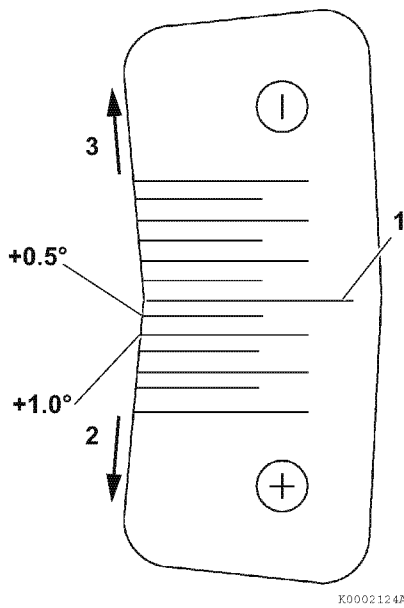

Figure 7-23
- If the difference between the timing index numbers is a positive number, the fuel injection pump mounting position must be advanced (2, **Figure 7-23**) (rotated away from the engine) as compared to the “standard mark” (1, **Figure 7-23**) by the calculated positive amount, adjust the fuel injection pump to the calculated value.
- If the difference between the timing index numbers is a negative number, the replacement injection pump must be retarded (3, **Figure 7-23**) (rotated toward the engine) by the calculated negative amount.
The above calculated difference indicates that the replacement fuel injection pump is to be installed at +0.5° (advanced) from the “Standard Mark” (1, **Figure 7-23**) on the timing sticker.